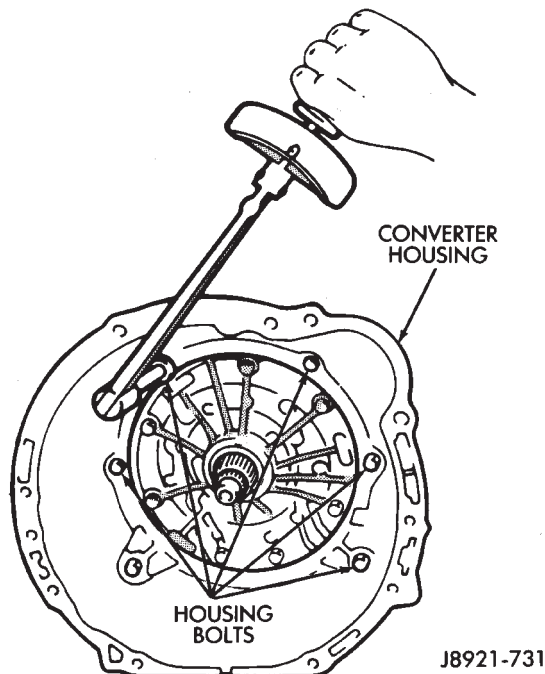

Fig. 183 Installing Converter Housing
(97) Install converter housing (Fig. 183). Tighten 12 mm diameter housing bolts to 57 N·m (42 ft. lbs.) torque. Tighten 10 mm diameter housing bolts to 34 N·m (25 ft. lbs.) torque.
(98) Install transmission shift lever on manual valve shaft. Do not install lever attaching nut at this time.
(99) Move transmission shift lever fully rearward. Then move lever two detent positions forward.